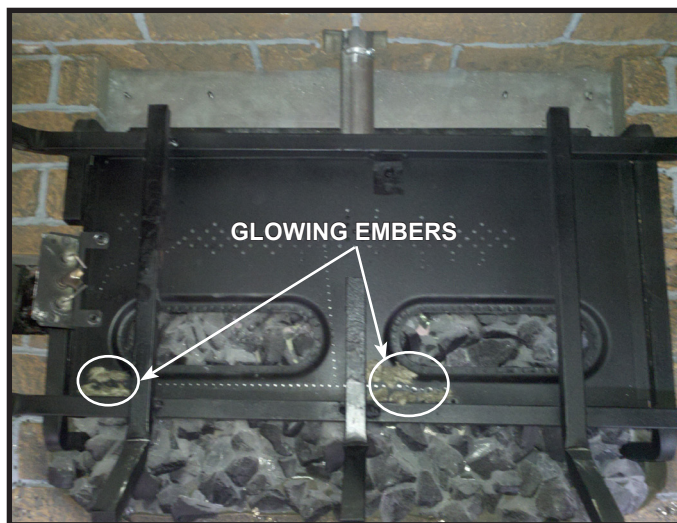

Figure 11.23. Location of Glowing Embers
- Place dime-size pieces of Glowing Embers® just in front of the port trail, but not on or in between the ports (see Figure 11.23). Care should be taken so that the ports are not covered. Failure to follow this procedure will likely cause lighting and sooting problems.